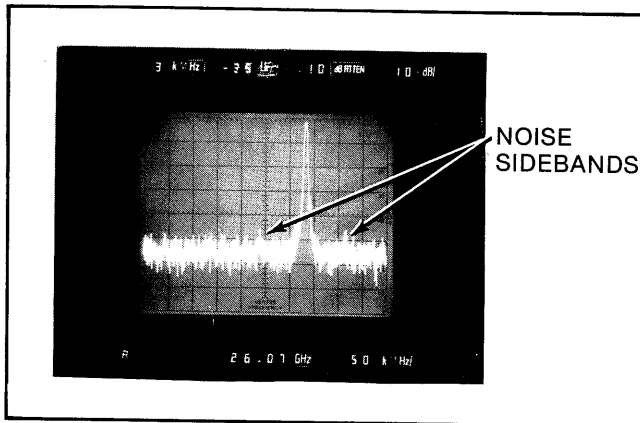

Figure 4-26. Noise Sidebands (>18.0 GHz)
- (1) rotate **PERSIST** fully clockwise;
- (2) press **SWEEP TRIGGER-SINGLE**.
- (3) press **ERASE**;
- (4) press **SWEEP TRIGGER-START/RESTART**;
- (5) press **STORE**.
9. A trace similar to the one shown in Figure 4-26 should be obtained. Ensure that no sidebands are present 100 kHz (2 division) on either side of the carrier frequency.